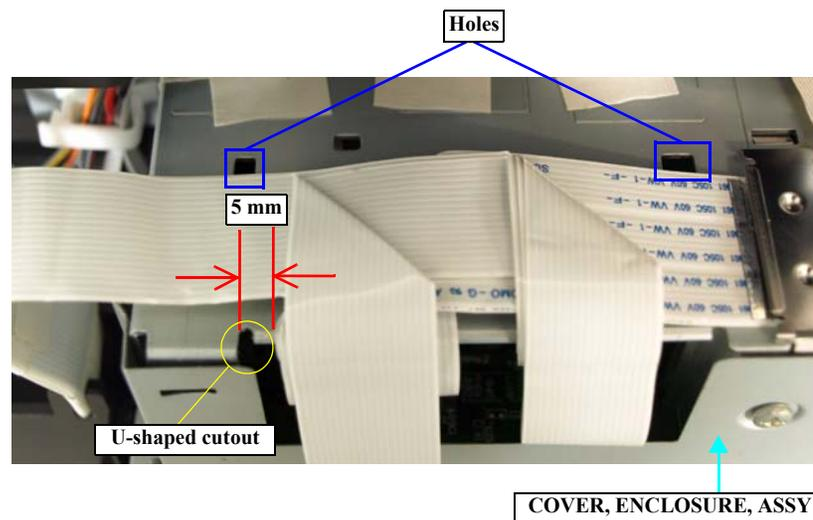

Figure 4-125. Routing the FFCs on the COVER, ENCLOSURE, ASSY
- Avoid covering the hole shown in *Figure 4-125*